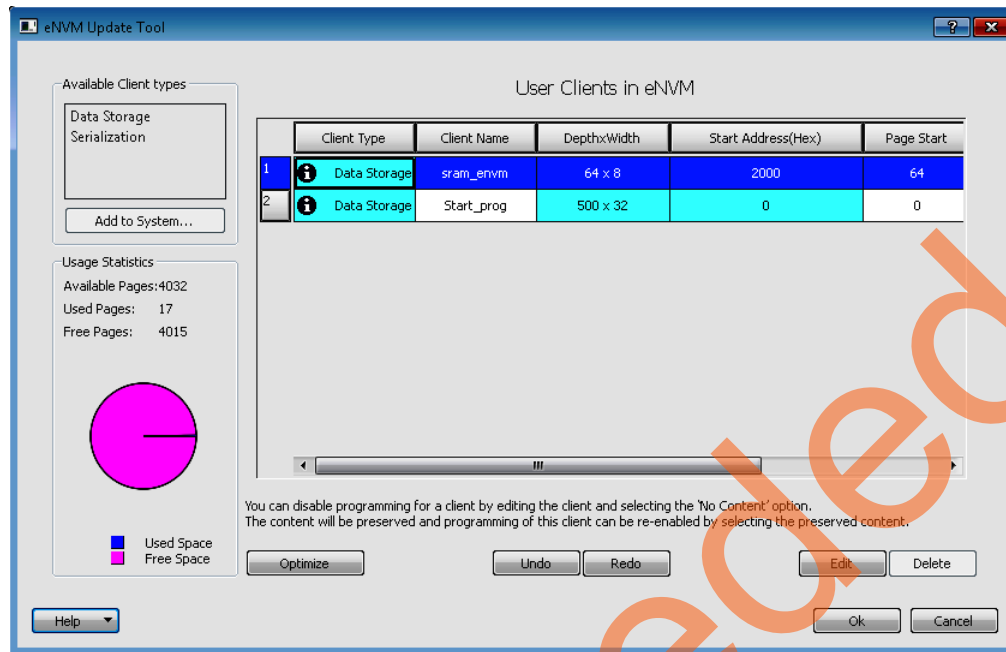
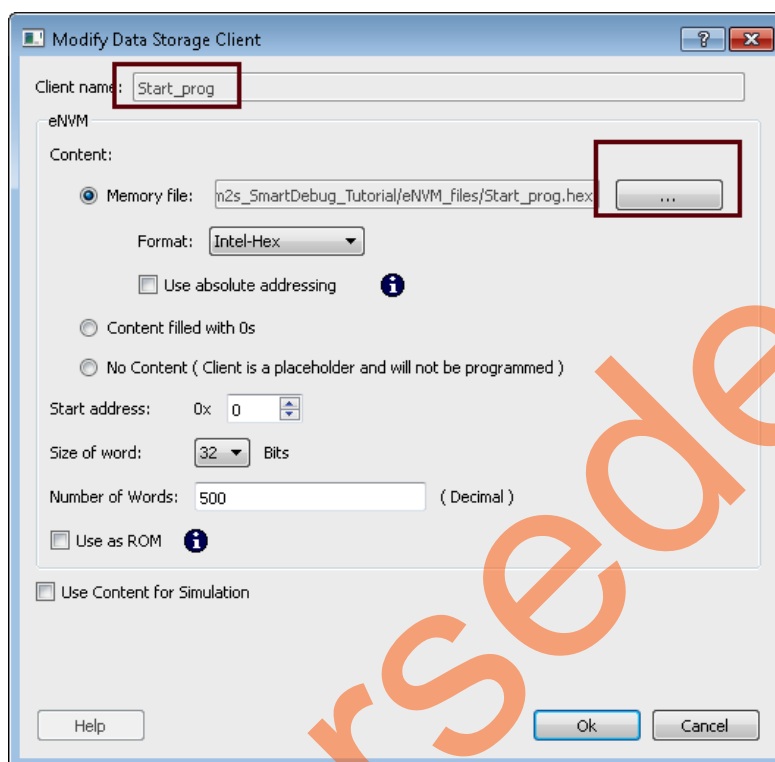

Figure 5 • eNVM Update Tool Window
Figure 7 • Modify Data Storage Client Window - Specifying Start_prog.hex File
The **eNVM Update Tool** window is displayed, as shown in Figure 5.
- d. If the SmartFusion2 Security Evaluation Kit is used, double-click the **Start_prog** client (see Figure 5). In the **Modify Data Storage Client** window, browse to the location of the `Start_prog.hex` file located in the `eNVM_files` folder included in the project as shown in Figure 7.